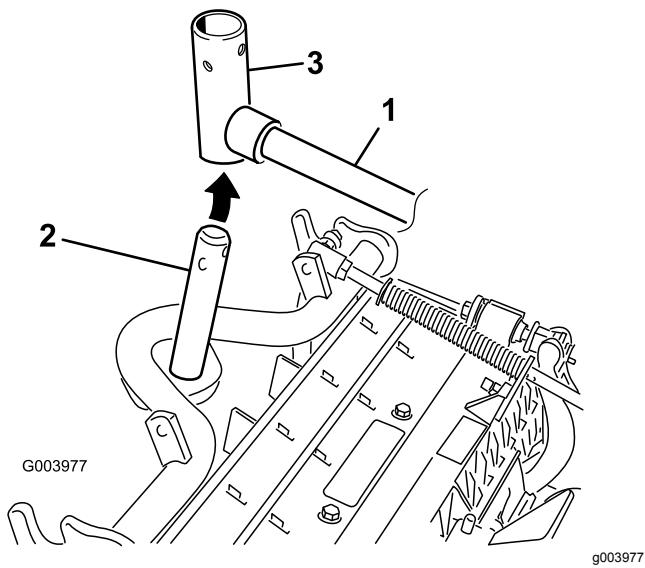

Figure 11
8. For the front cutting units, slide a cutting unit under the lift arm while inserting the carrier frame shaft up into the lift arm pivot yoke (Figure 11).
B. Insert the lift arm yoke onto the carrier frame shaft (Figure 11).